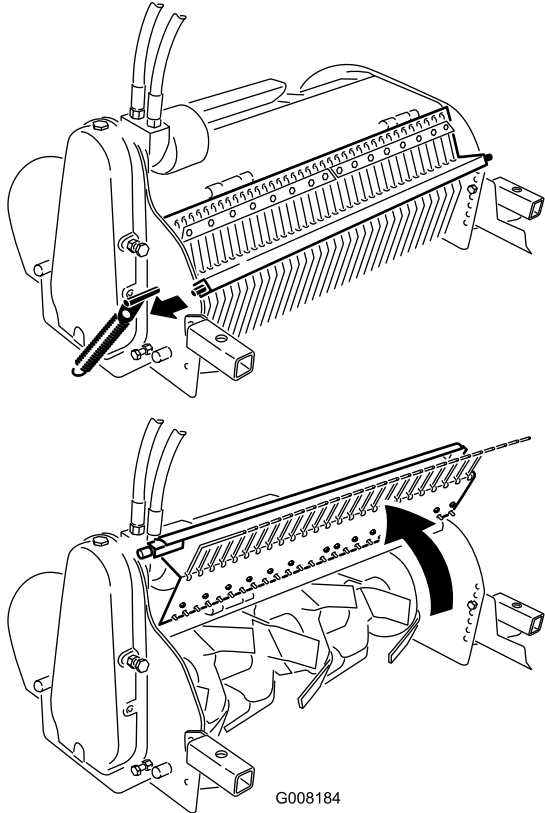

Figure 13
4. Lift up and release the spring catch on the side of the cultivator (Figure 13).
5. Open the tine cover (Figure 13).